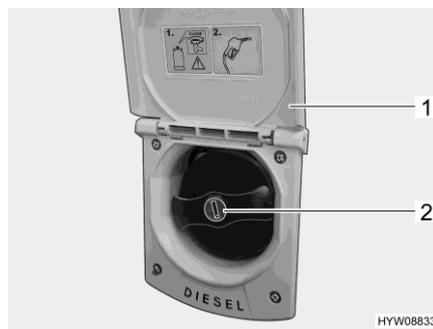

Fig. 36 Fuel filler neck
- Pull the flap (Fig. 36,1) upwards.
- Insert the key in the locking cylinder (Fig. 36,2) and turn it in an anti-clockwise direction.